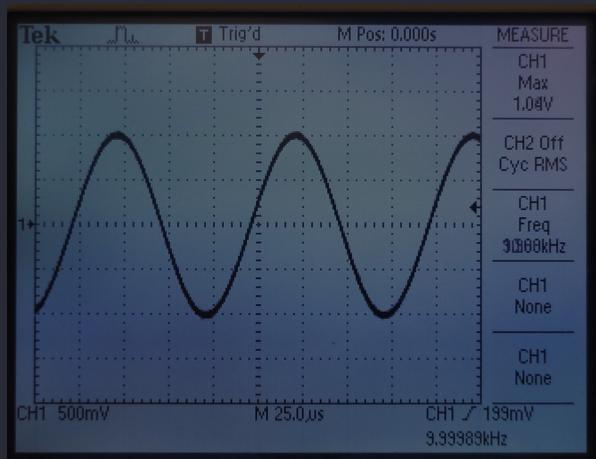

Figure 0.1: TDS 1012 oscilloscope view
- Simple sine wave: Selecting the Sine waveform on the 33500B, we can see the outputs in the time & frequency domains as shown in Fig. 0.1 and 0.2